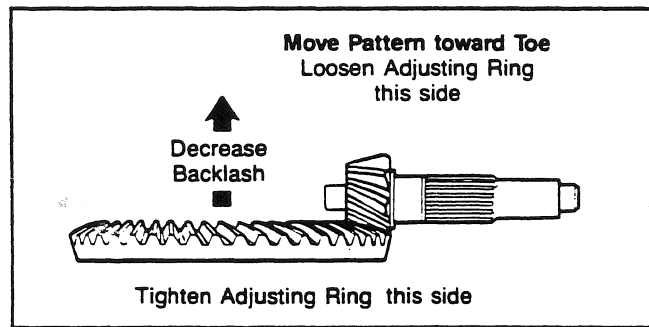

Fig. 86
a) Decrease backlash to move the tooth contact patterns toward the toe of the ring gear teeth (see Fig. 86).